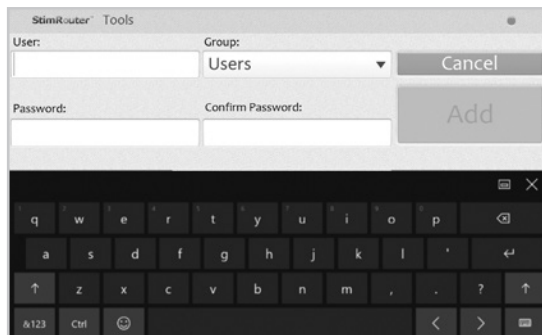

Figure 11-3: Add new user window
2. Enter a user name and password, confirm the password, select either “Users” or “Administrators” from the “Group” drop-down list, and then press the “Add” button. See Figure 11-3.